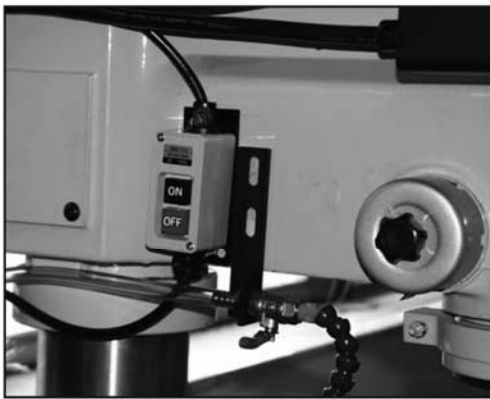

Figure 8: Suggested installation
4. Position the power switch and valve bracket on the spindle casting. Mark mounting hole locations and drill holes. (Refer to Figure 8).